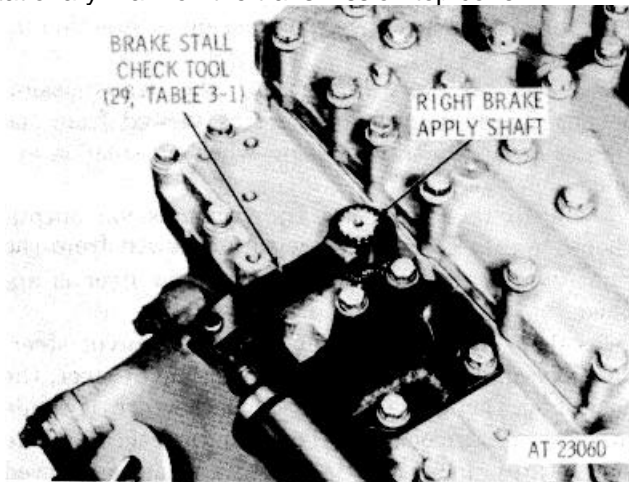

Figure 9-5. Brake stall check tool installed on transmission.
(1) A converter stall test is performed by stalling the transmission output, putting the transmission in fourth gear accelerating the engine to full throttle, and noting the maximum rpm the engine will attain. The speed attained is then compared to normal stall speed (2100 to 2400 rpm). Number 2 diesel fuel should be used in the 6V 53T engine during a stall test.
(2) To conduct converter stall tests in the vehicle, fully apply vehicle brakes. To conduct converter stall tests in the test stand, install the brake stall check tool (29, table 3-1) after removing the brake linkage and brake inspection cover at the right side of the transmission (fig. 9-5). Tighten the stall check tool until Apply on the brake indicator aligns with the stationary mark on the transmission top cover.